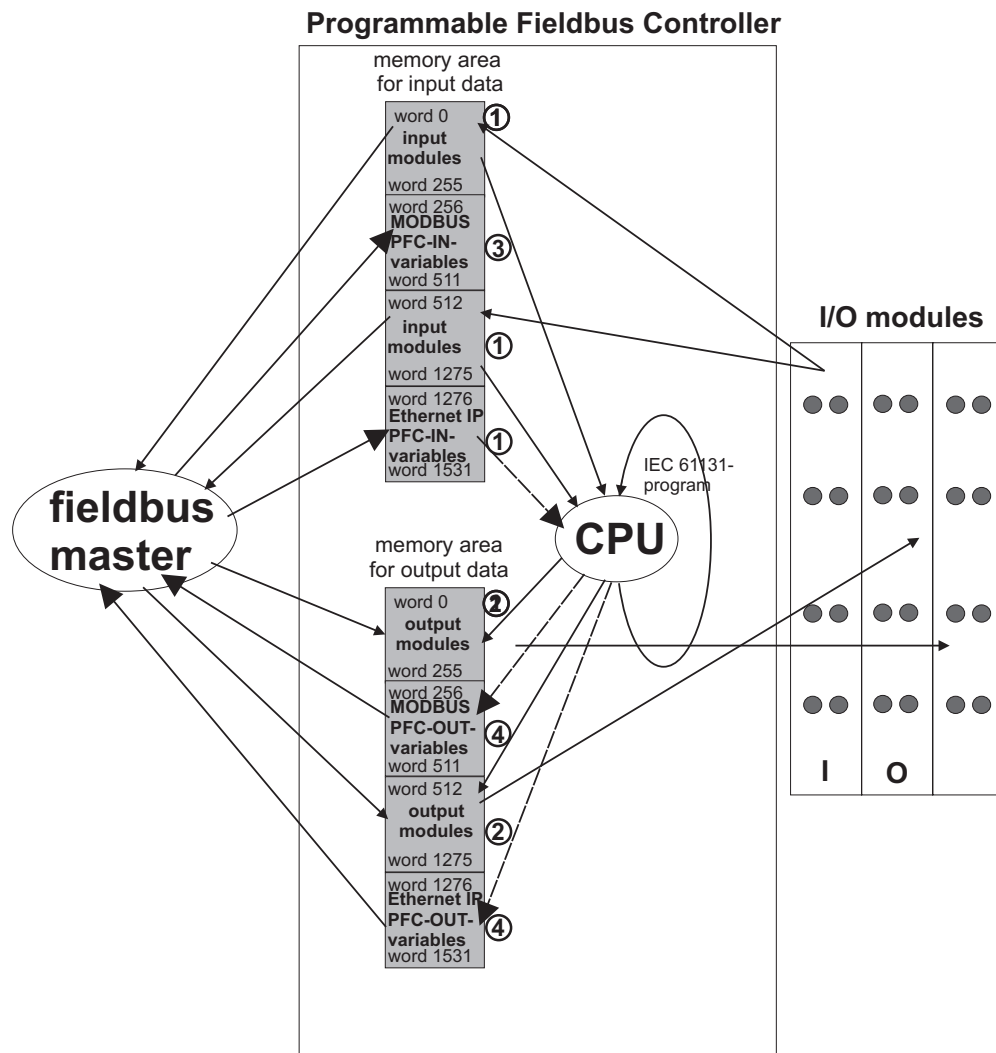

Fig. 3-8: Memory Areas and Data Exchange for a Fieldbus Controller
- (1) Reading data of the input modules is possible from both the controller's CPU and from the fieldbus master (See Figure 3-8).
- (2) In the same manner, writing data to output modules is possible from both the controller's CPU and from the fieldbus master.